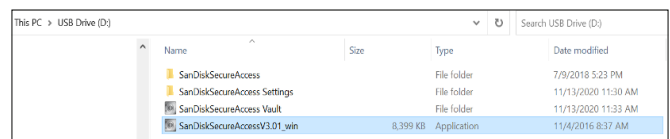

Figure 1: Password-protected folder within the USB Stick containing the Software Installer
2. Plug in the USB Stick into any one of the laptop's USB ports and open the contents as shown below. Double-click the executable file in **Figure 1**.